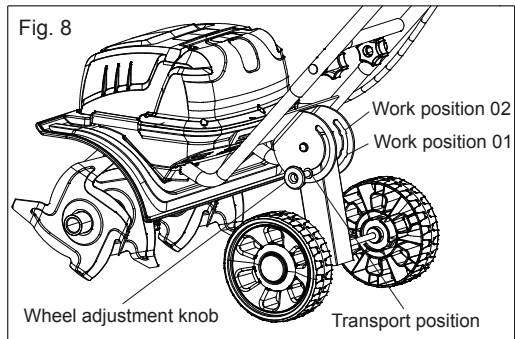

Fig. 8
2. To adjust the wheel position, push the wheel adjustment knob while moving it to the slot for desired position; let go of the knob and make sure it locks into position (Fig. 8).